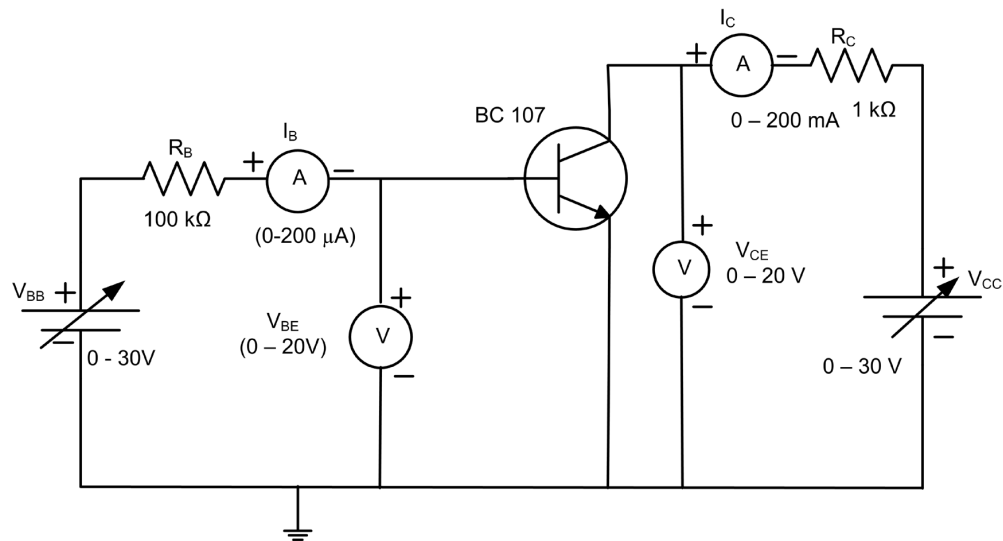

Fig. P19.1: Circuit diagram of BJT in CE mode
1. Connect the circuit as shown in Fig. P19.1.